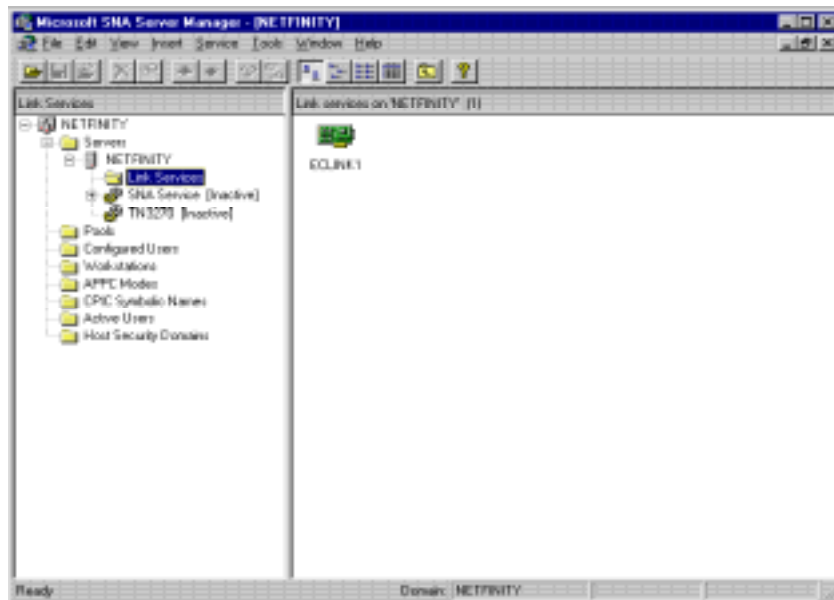

Figure 8-23. ESCON Link Service
1. Start SNA Server Manager from Windows NT. If you open the **Link Services** folder you will notice the link service created by the previous procedure (Figure 8-23).